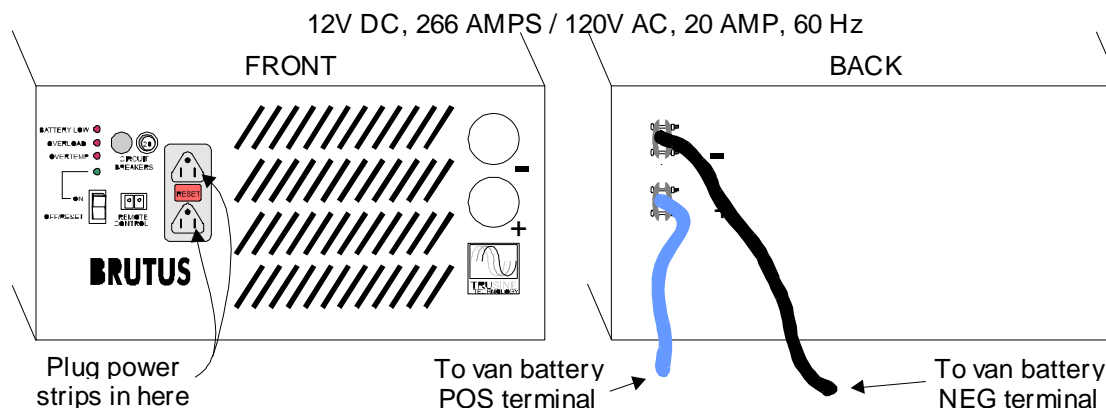

Figure 14
30. Arrange the AC power strips between the driver's seat and the workstation (behind the 'stack') so that the power cords for all of the equipment can reach and can be plugged into the Brutus CTB 24-12 Inverter (see **Figure 14**). One of the power strips (this one should be used for as few devices as possible) needs to be plugged into one of the other power strips.